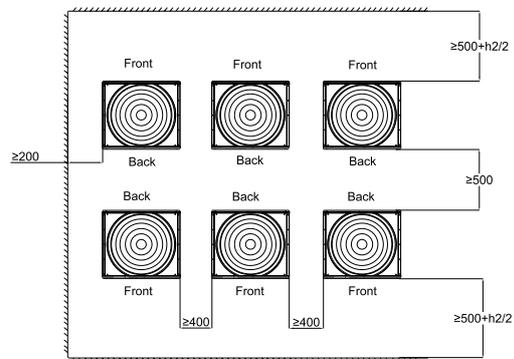

Figure 8
- Obstacles in the front, back and one side, back-to-back mounting 2 (see Figure 8)